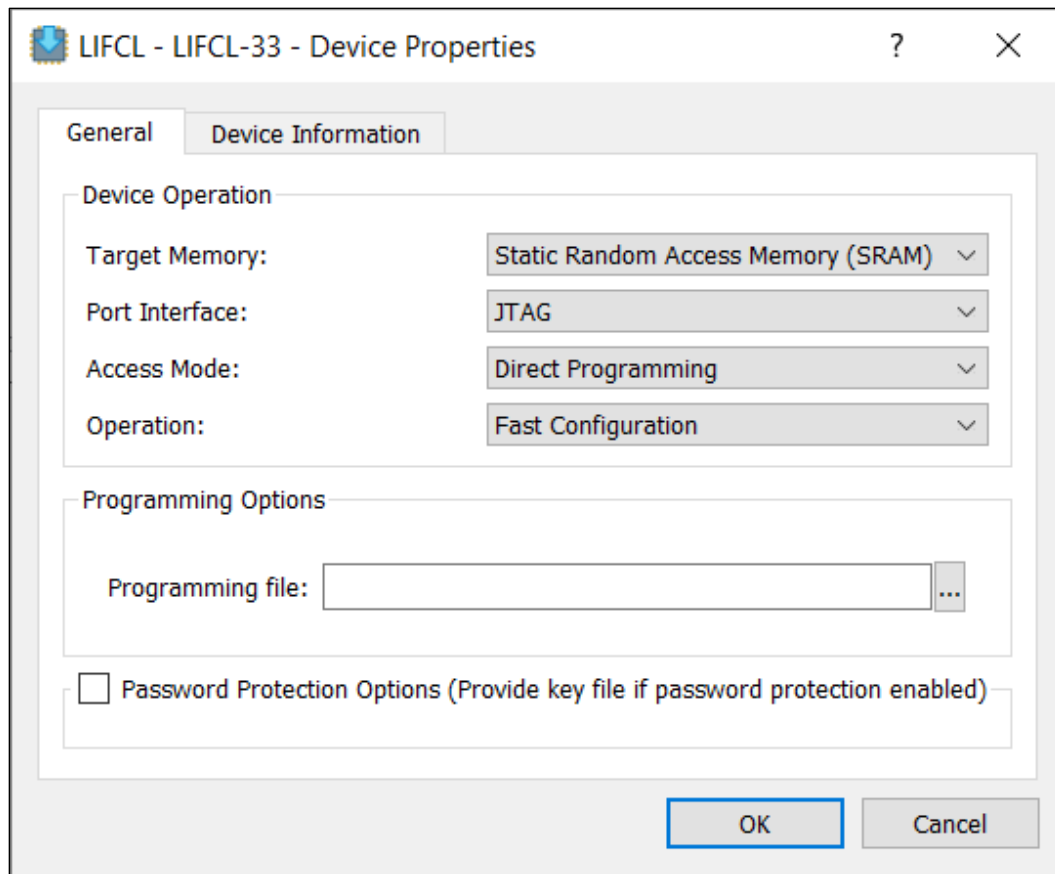

Figure 2.4. Lattice Radiant Programmer Device Properties Windows
6. The **Device Properties** windows as shown in Figure 2.4 is displayed.